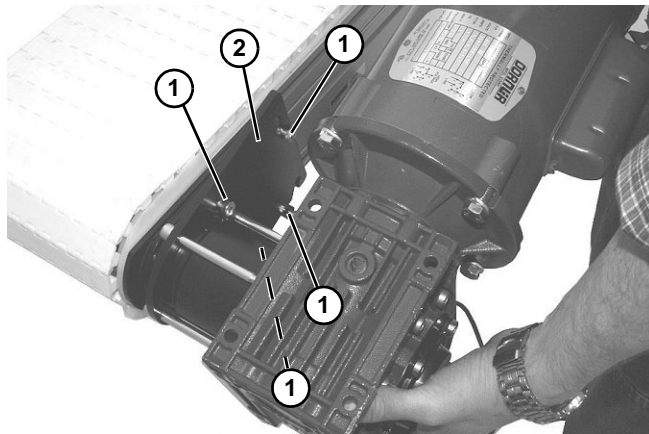

Figure 6
1. Loosen the four (4) mounting screws (**Figure 6, item 1**).
2. Rotate gearmotor assembly and remove gearmotor mounting bracket (**Figure 6, item 2**) and entire gearmotor assembly from conveyor.